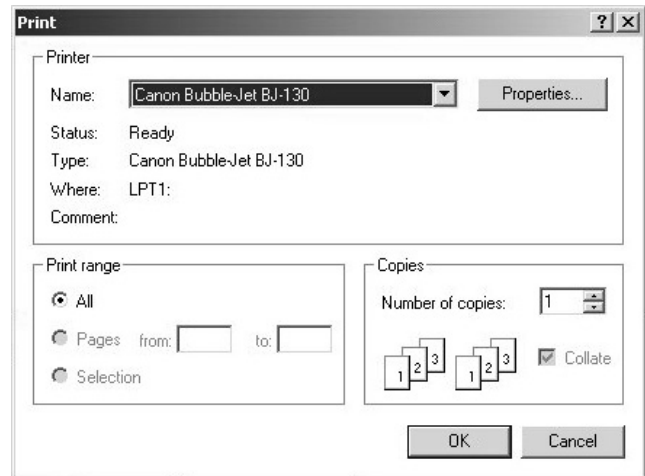

Fig.75
2. The Print dialog box (Fig.75) appears.